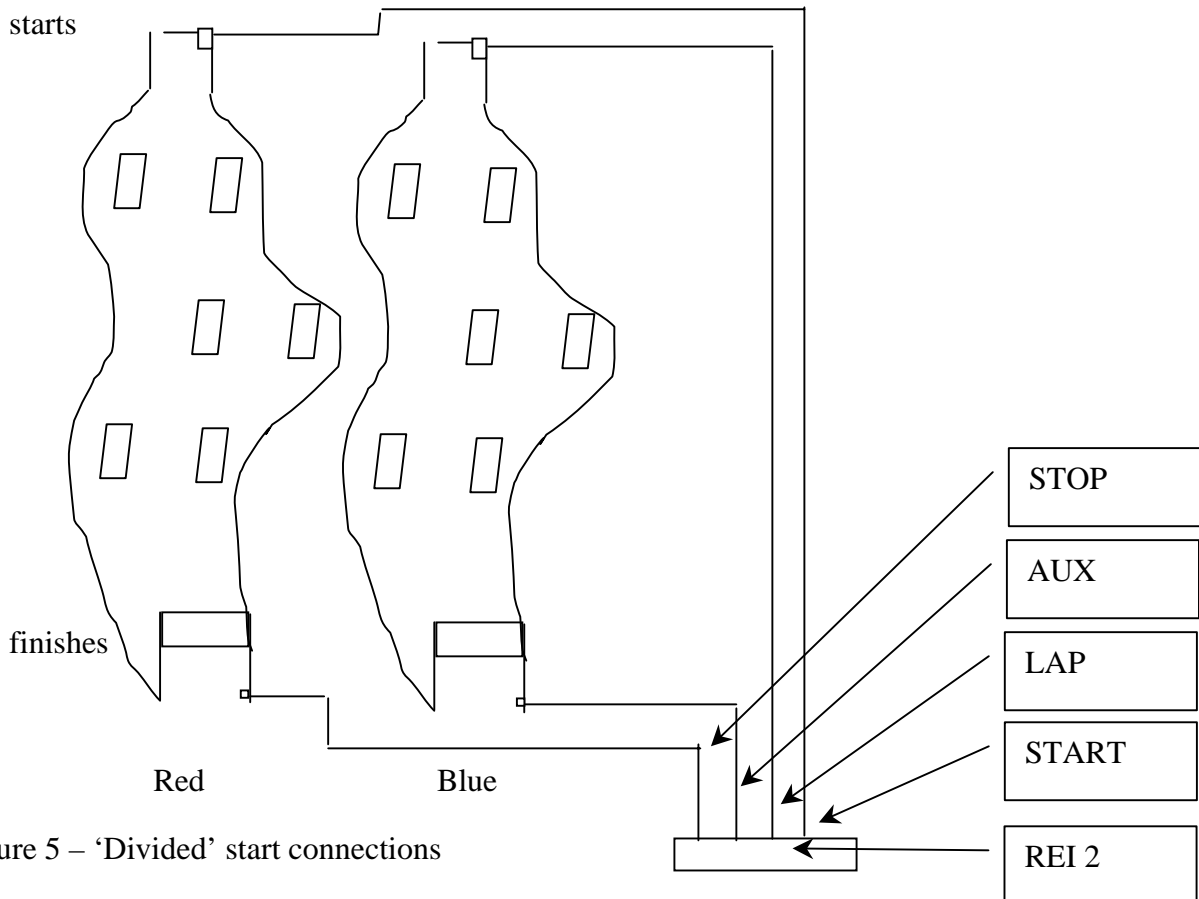

Figure 5 – ‘Divided’ start connections
- **Divided:** For each track both the start and the finish are acquired independently. This makes it possible to use normal starting gates for the start if you do not have special starting gates for slalom special, guaranteeing uniformity in time taking. The time of each competitor starts with the opening of the gate of that particular competitor. The time of the second run starts from the time obtained in the first run. See example in Figure 5.